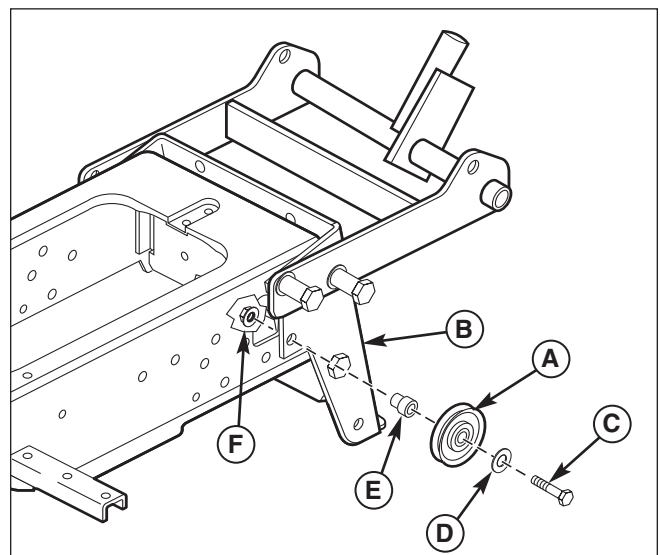

Figure 10. Rear Idler Pulley Installation
1. Install the rear idler pulley (A, Figure 10) into the left side of the frame wrapper (B) using a 3/8-16 x 2-1/2 capscrew (C), 3/8 flat washer (D), spacer (E), and 3/8-16 locking flange nut (F) as shown. Tighten nut to 19.5 lb-ft (26.5 Nm).